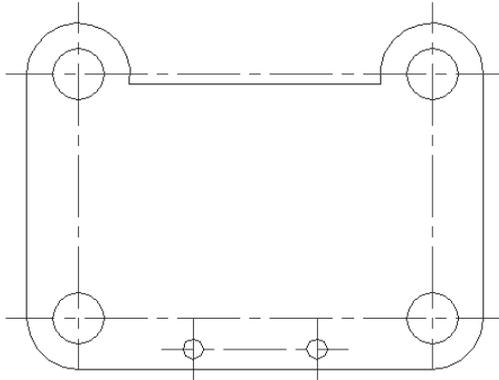

Figure 10-10: The completed tension arm.
5. Save your drawing. It should look like Figure 10-10.